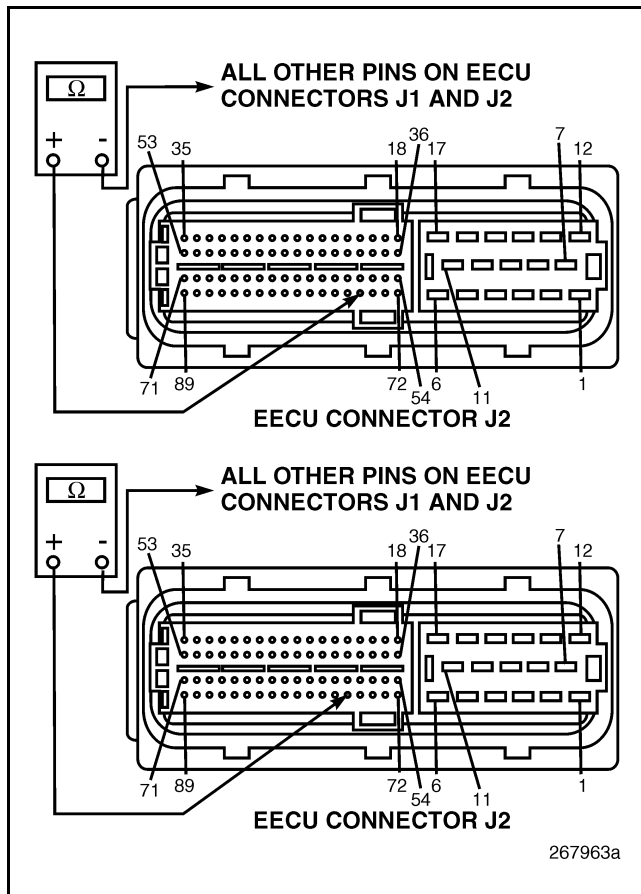

Figure 412
2. Disconnect the Engine Position (EP) Sensor.
4. Check for continuity between EECU connector J2 pins 75 and 76 versus all other pins on EECU connectors J1 and J2 (see Figure 412).